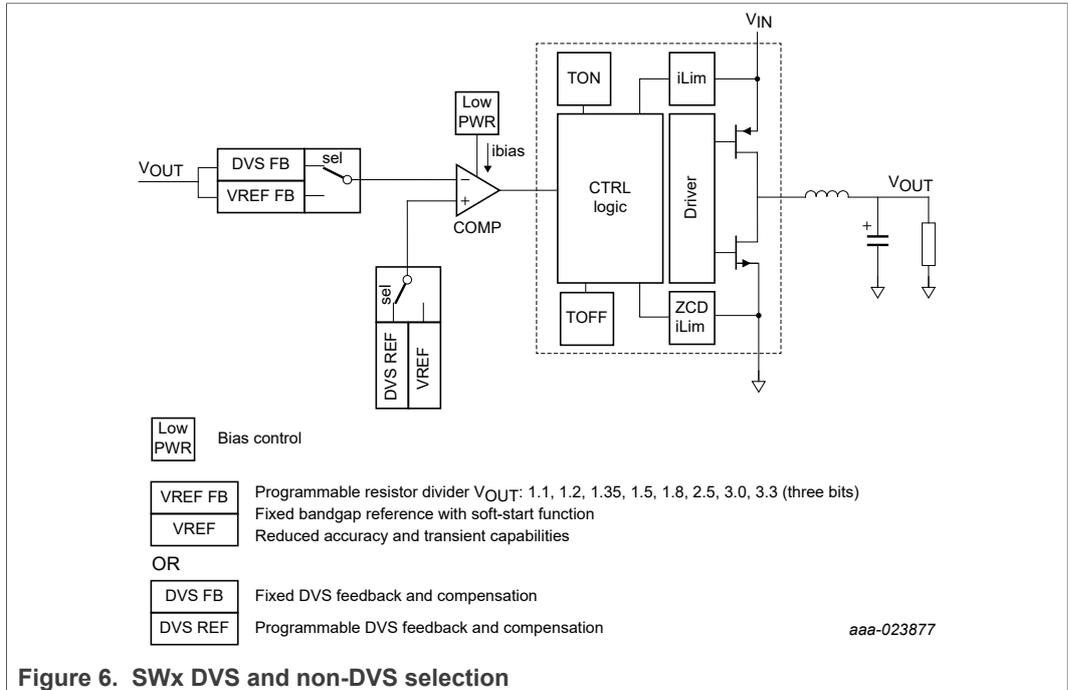

Figure 6. SWx DVS and non-DVS selection
- DVS enabled:** a DVS reference is activated and output accuracy of the regulator is tight at the cost of slightly higher quiescent current. See Section 5.3 "Electrical characteristics" for details. In Figure 6, **DVS FB** and **DVS REF** are enabled via OTP for this mode of operation.
- DVS disabled: the regulator operates as a traditional buck converter with a fixed reference and soft-start. The quiescent current in this mode is lower at the cost of output accuracy and transient response. See Section 5.3 "Electrical characteristics" for details. In Figure 6, VREF FB and VREF are enabled via OTP for this mode of operation.